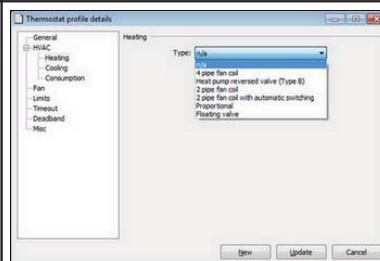

Figure 44
6. Click the plus sign in front of **HVAC** in the left pane of the **Thermostat profile details** dialog; the three alternatives **Heating**, **Cooling** and **Consumption** are shown. At **Heating**, make the applicable choice in the drop-down-menu; the available alternatives are shown in Figure 44. For the below alternatives, further settings can be made; click the links for details.